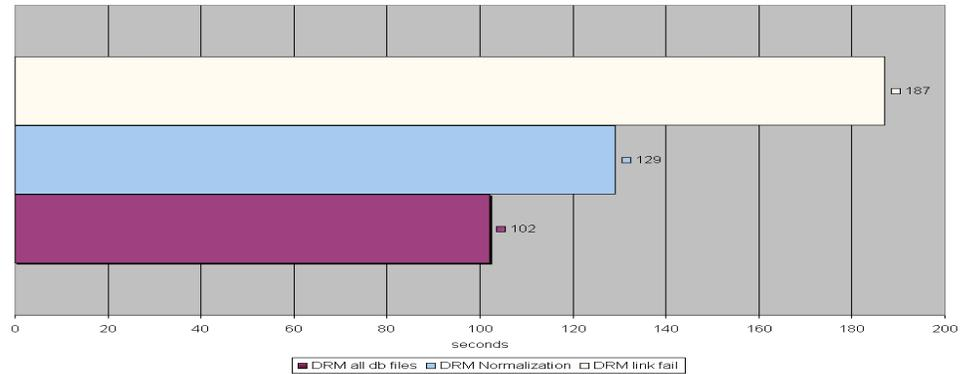

Figure 9 Path Failure and Normalization Process
- In a *second step* of the script, the renormalization process is started. This will impact the performance of the running SAP environment as shown in Figure 9 .
At both sites, a DRM configuration has No Single Point Of Failure in the I/O path from the server to the data on disk. There are at least two paths in two distinct fabrics to ensure that an unplanned site failover (disaster) can only occur if a series of failures occur. To test this functionality in a mySAP.com environment, a path failure was simulated by powering off one FC switch while the ABAP program was running. The path failure was acknowledged after 30 seconds and completed after 80 seconds (Figure 9). This resulted in a job completion time of 187 seconds compared to the 102 seconds, which is the job completion time for replicating the entire database without error conditions.
Running the write-intensive ABAP program while a full normalization was in process, the job completion time increased by about 30% to 129 seconds (Figure 9). This means that it might not be acceptable for a customer to renormalize after a disaster to prepare a failback while the SAP service is available.